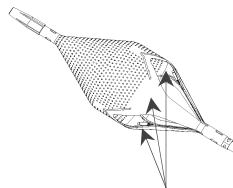

Fig. 5: Filter Marker Bands
3. Deploy the Filter Unit by holding the guide wire in place with the guide wire torque tool pressed against the hemostasis valve while simultaneously retracting the Delivery Catheter. The three marker bands in the center of the Filter Unit will expand and indicate filter sealing position (Fig 5).